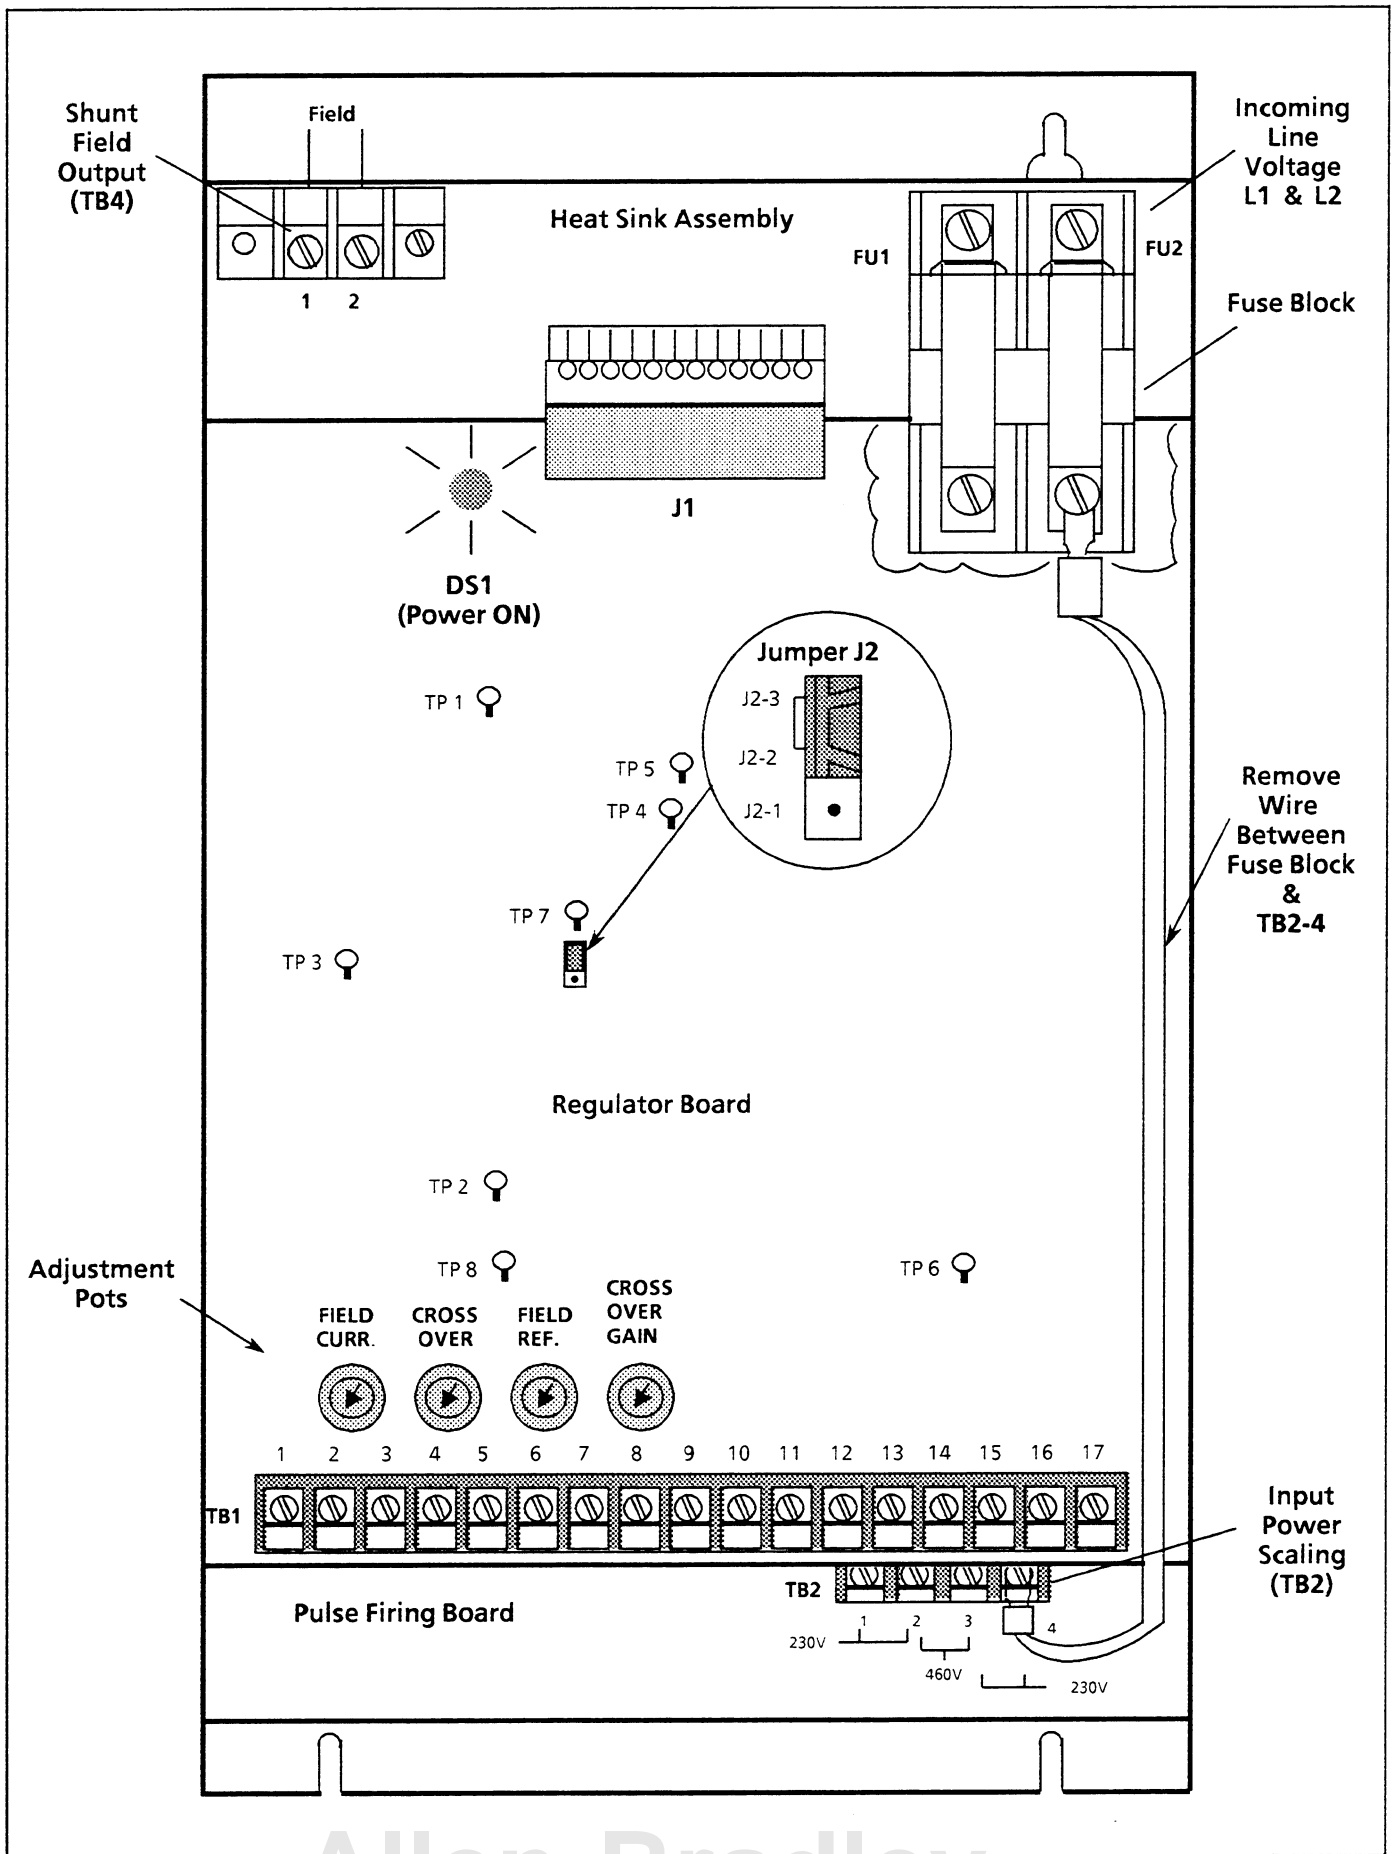

Figure 2. Wire Location on RFS Module
10. Remove the wire which connects TB2-4 to the Fuse Block on the Heat Sink Assembly (see Figure 2). Retighten screw.
13. The wire previously disconnected from TB2 (step 10) must now be **completely removed** (see Figure 2). Remove the other end of the wire at the AC line input Fuse Block. Retighten screw.
1. Slide the new Pulse Board into the Circuit Board Assembly Rack with jack J12 at the top of the Module near the fuse block (see Figure 2).